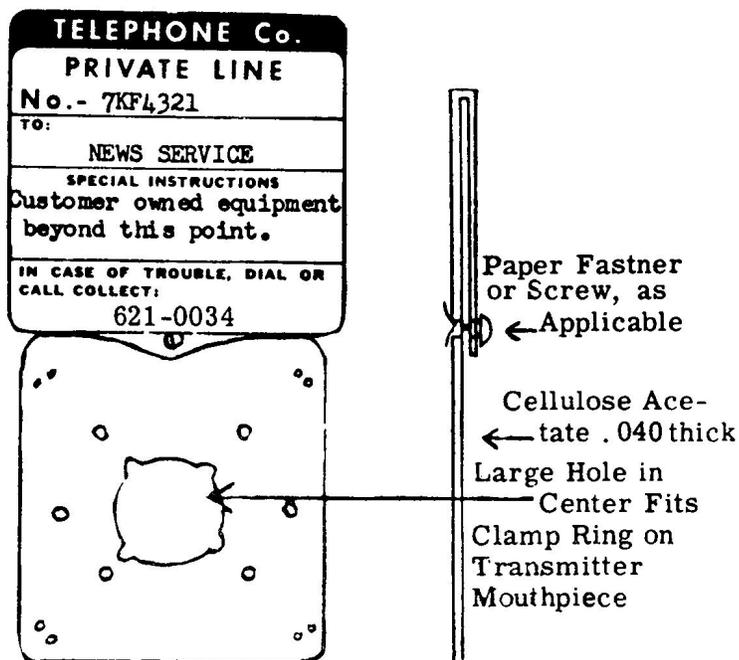

Figure 2 - L-4698 Designation Holder
5. 03 If a special service terminates on a station jack, 42A or 44A connecting block, demarcation terminal strip, etc., mount a L-4698 designation holder. Order on form P-505-1, standard, stocked, as Holder, Designation, Station Apparatus, L-4698. Use the same screws that fasten the apparatus to the backboard or other mounting surface to clamp the L-4698 holder firmly between the apparatus and the mounting surface. A large hole in the center of the mounting tab of the L-4698 holder can be used on old type nondial explosion-proof sets by unscrewing the mouthpiece and clamping the L-4698 holder between the mouthpiece and set housing, (see Figure 2).